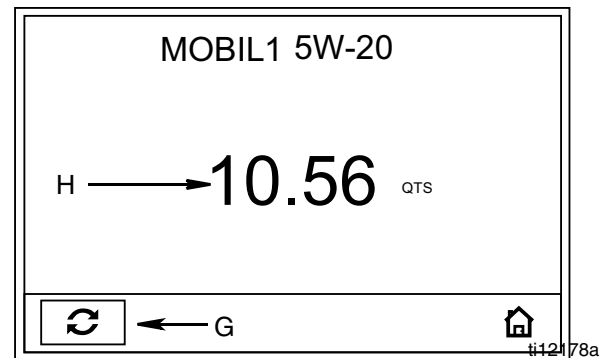

FIG. 21
2. Press center, ENTER button to confirm selection. The Manual Dispense screen (FIG. 21) appears.
Fluid flows. The amount displayed counts up from zero or from the previously dispensed amount (FIG. 21) and displays in field H.